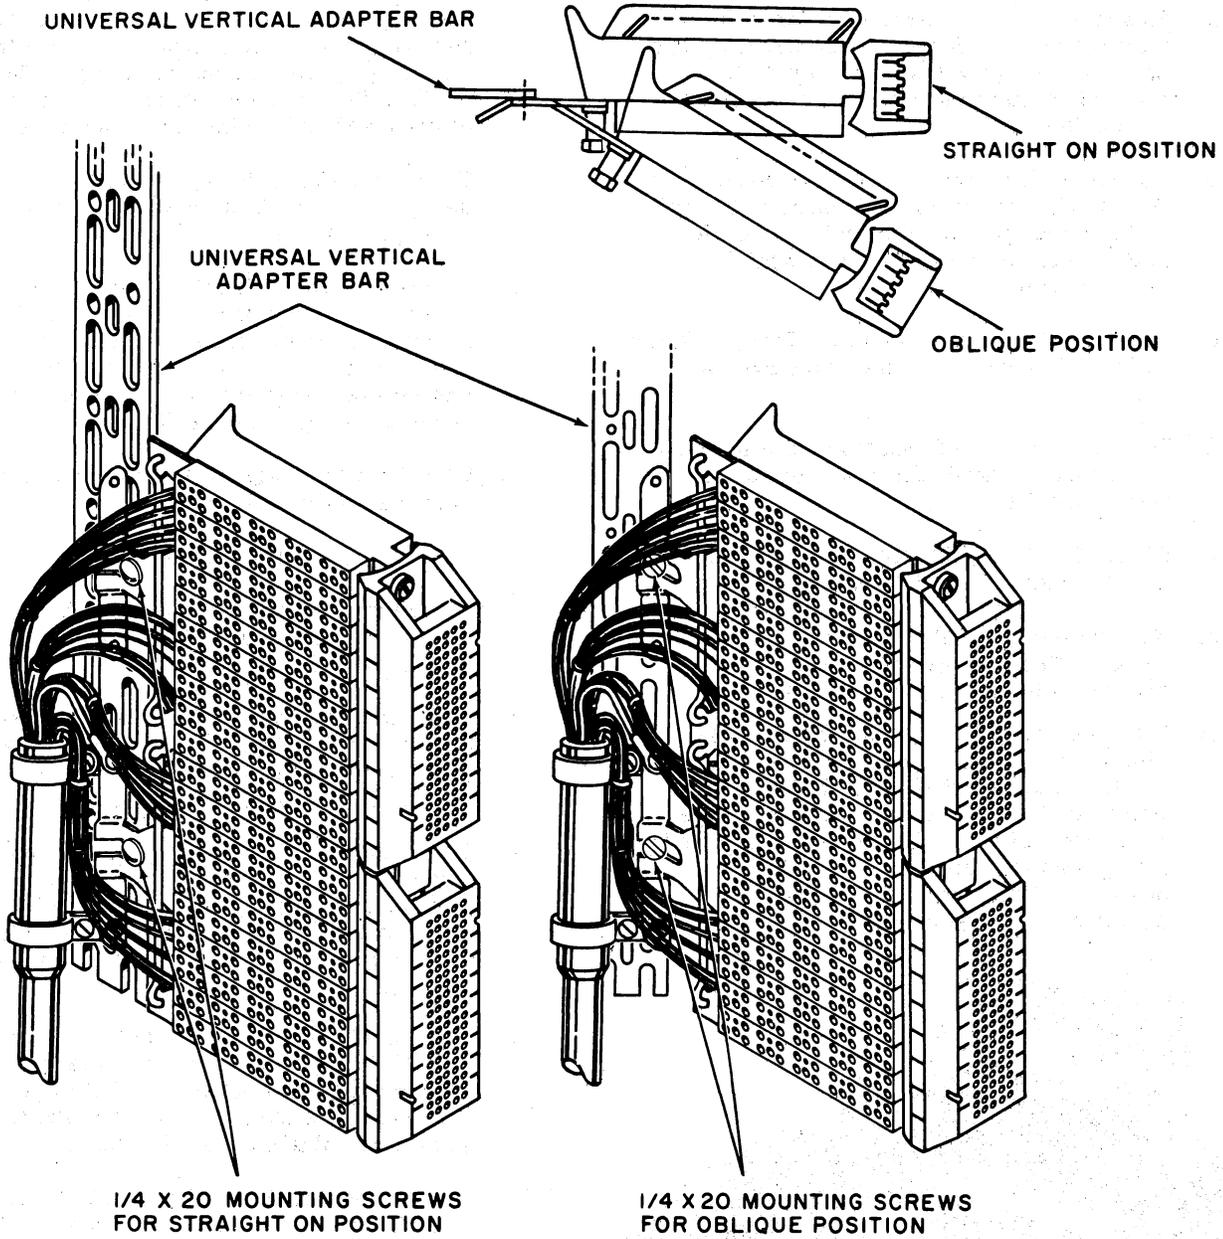

Figure 20. Mounting Stubbed C-377 Connector to MDF
- d. Attach the Connector to the Universal Vertical Adapter Bar by sliding the slots in the oblique angle mounting bracket around the mounting screws, as shown in figure 20. Position the Connector in the straight-on position and tighten the two mounting screws.
- f. Arrange all the stub cables against the transverse arms and other parts of the MDF to provide a neat and orderly routing to the riser holes. Lash the stub cables to the transverse arms (and other locations if necessary). (See figure 20).